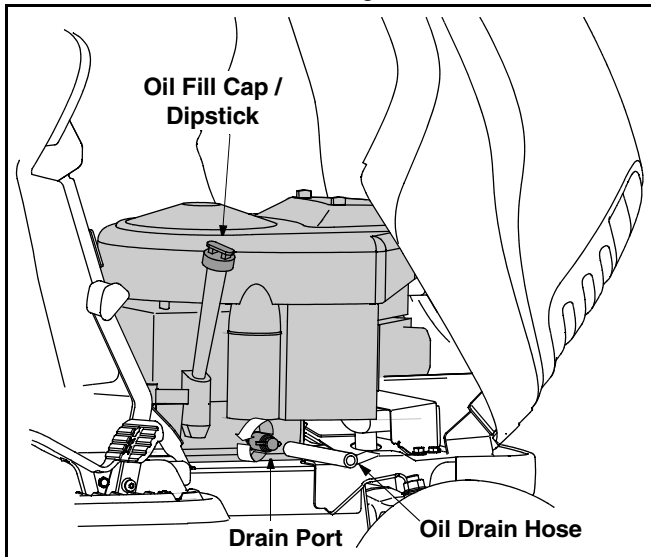

Figure 13
- Unscrew the oil fill cap and remove the dipstick from the oil fill tube. See Figure 13.
- Pop open the protective cap on the end of the oil drain valve to expose the drain port. See Figure 13.